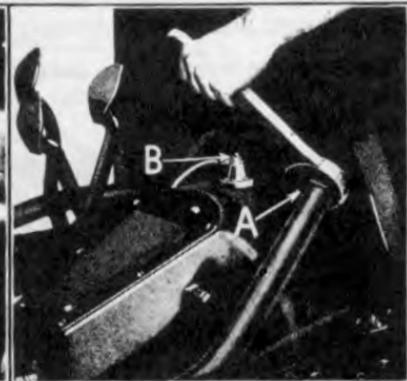

Fig. 30
- 30 **Disconnect exhaust pipe from manifold** by running off exhaust pipe pack nut (See "A" Fig. 30).